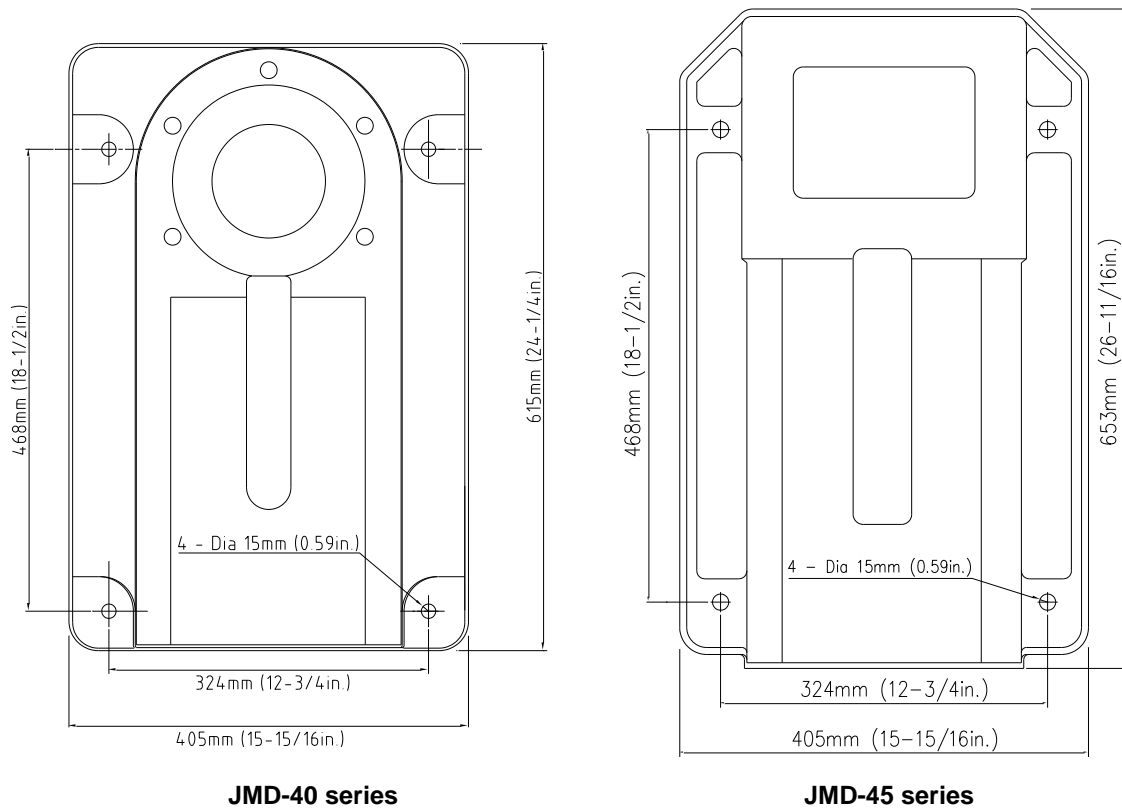

Figure 4-1
2. Before bolting mill-drill to a bench or stand, the unit must be level: Place a level on table in both directions. If table is not level, shim under the low corner(s) until level. Tighten fastening bolts. (See Figure 4-1 for mounting hole spacing.)